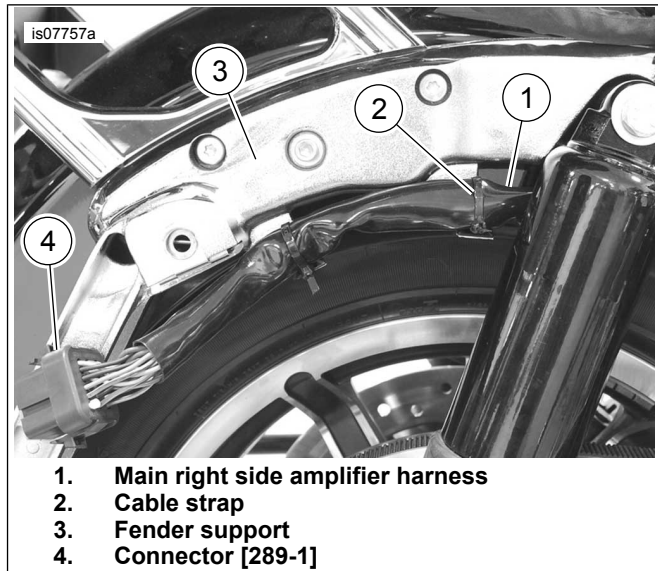

Figure 7. Main Amplifier Harness Routing
1. See Figure 7. Route the vehicle-side amplifier harness (1) in the saddlebag mounting area, beginning with the large 18-way amplifier socket connector [289-1A], moving forward on the vehicle. Route the harness following the saddlebag support (3).
3. Use cable straps (2) to tie the harness loosely to the saddlebag support. Use the large hole near the saddlebag rear attachment point or one of the cable strap slots along the bottom of the support.